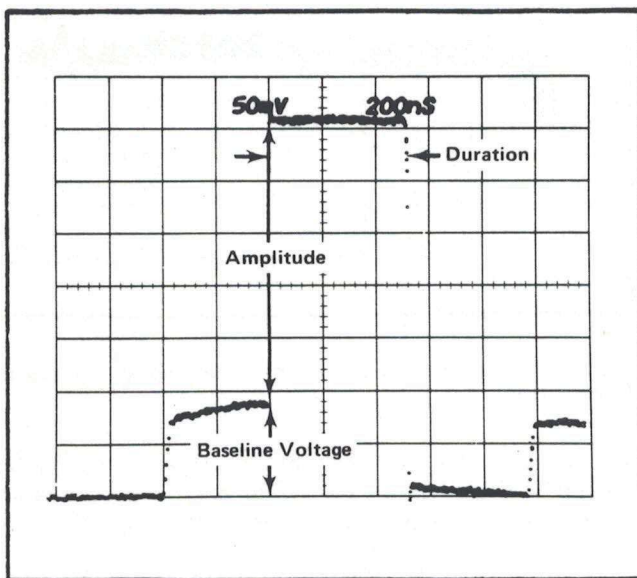

Fig. 5-6. Waveform showing PULSE OUTPUT duration, amplitude and baseline level.
b. Adjust the 7T11 Time Position control to place the pulse on the CRT. See Fig. 5-6.